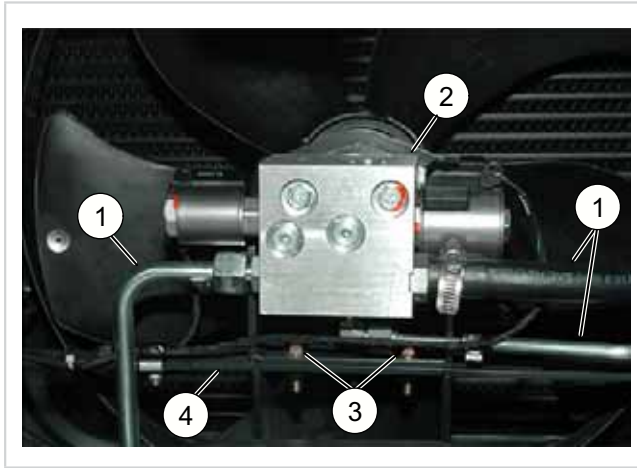

Fig. 20 (32331)
1. See Figure 20. Disconnect the hydraulic lines (1) from the hydraulic motor (2).